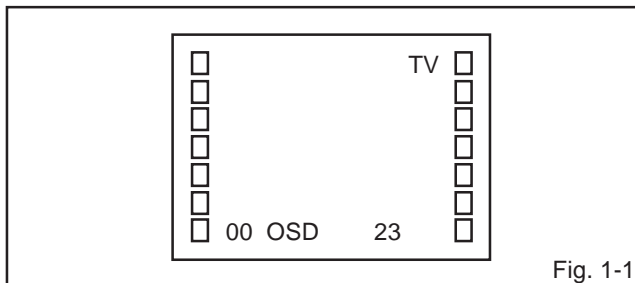

Fig. 1-1
Press the VOL. DOWN button on the set and the Channel button (9) on the remote control for more than 1 second to appear the adjustment mode on the screen as shown in **Fig. 1-1**.
3. Activate the adjustment mode display of **Fig. 1-1** and press the channel button (01) on the remote control to select "CUT OFF".
4. Activate the adjustment mode display of **Fig. 1-1** and press the channel button (10) on the remote control to select "R.BIAS".
3. Activate the adjustment mode display of **Fig. 1-1** and press the channel button (22) on the remote control to select "TINT".
6. Activate the adjustment mode display of **Fig. 1-1** and press the channel button (19) on the remote control to select "COL.CENT".